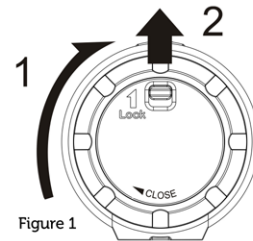
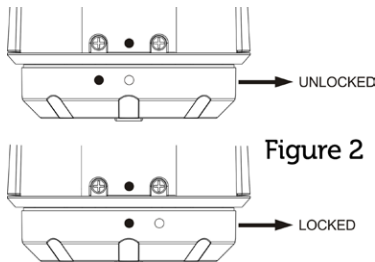

Figure 1
Figure 2
1. Attach the Panel Cover (Figure 1) to the back of the camera by positioning the Panel Cover Lock in the 12 o'clock position and rotate the outer ring of the Panel Cover clockwise (in the direction of arrow No.1) until the two black circles are lined up (Figure 2).